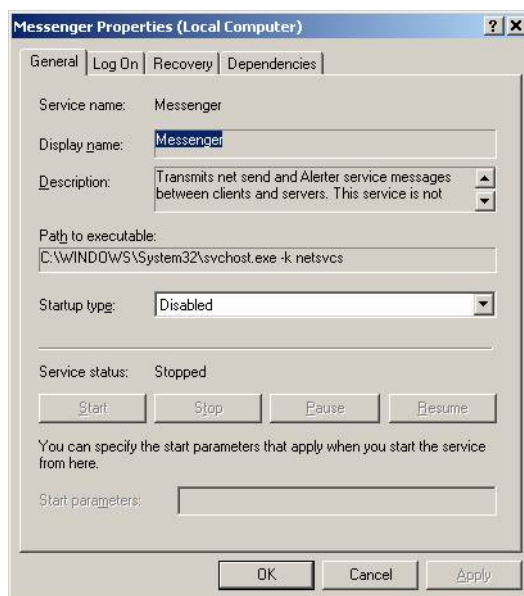

Figure 7.3 Activate Messenger
5. Right-click the Messenger service and select Properties (Figure 7.3).